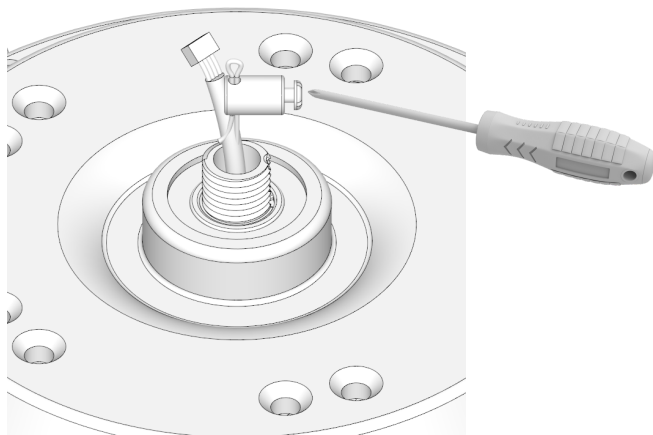

Fig. 4.4
**Note:** If you encounter difficulty passing the safety rope through the center hole of the light kit, you have the option to remove the screw on the safety rope lock, as depicted in Fig. 4.4. This will allow you to thread the safety rope through the center hole more easily. However, it is crucial to remember to reassemble the screw back to its original position once the light kit installation is complete. Failure to properly install the safety rope may compromise its effectiveness and increase the risk of detachment, potentially posing safety hazards.